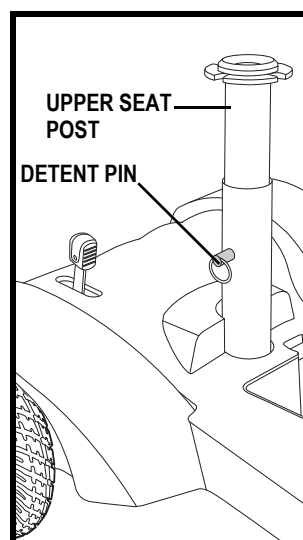

Figure 15. Seat Post Removal
3. Remove the detent pin and upper seat post. See **figure 15**.